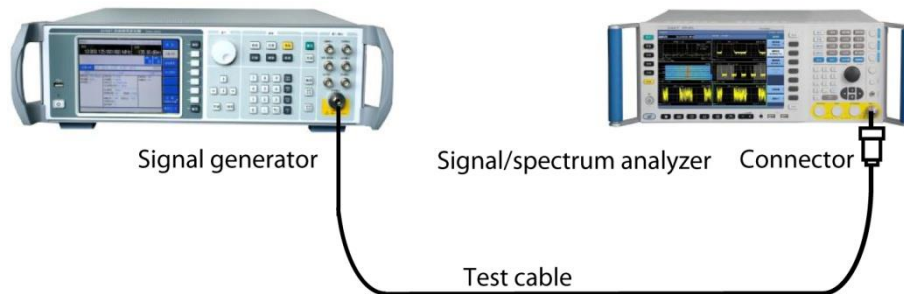

Fig. 4.63 Connection settings of occupied bandwidth measurements
Step 2. Connect the radio frequency output port of the signal source to that of the analyzer. As shown in Fig. 4.63: